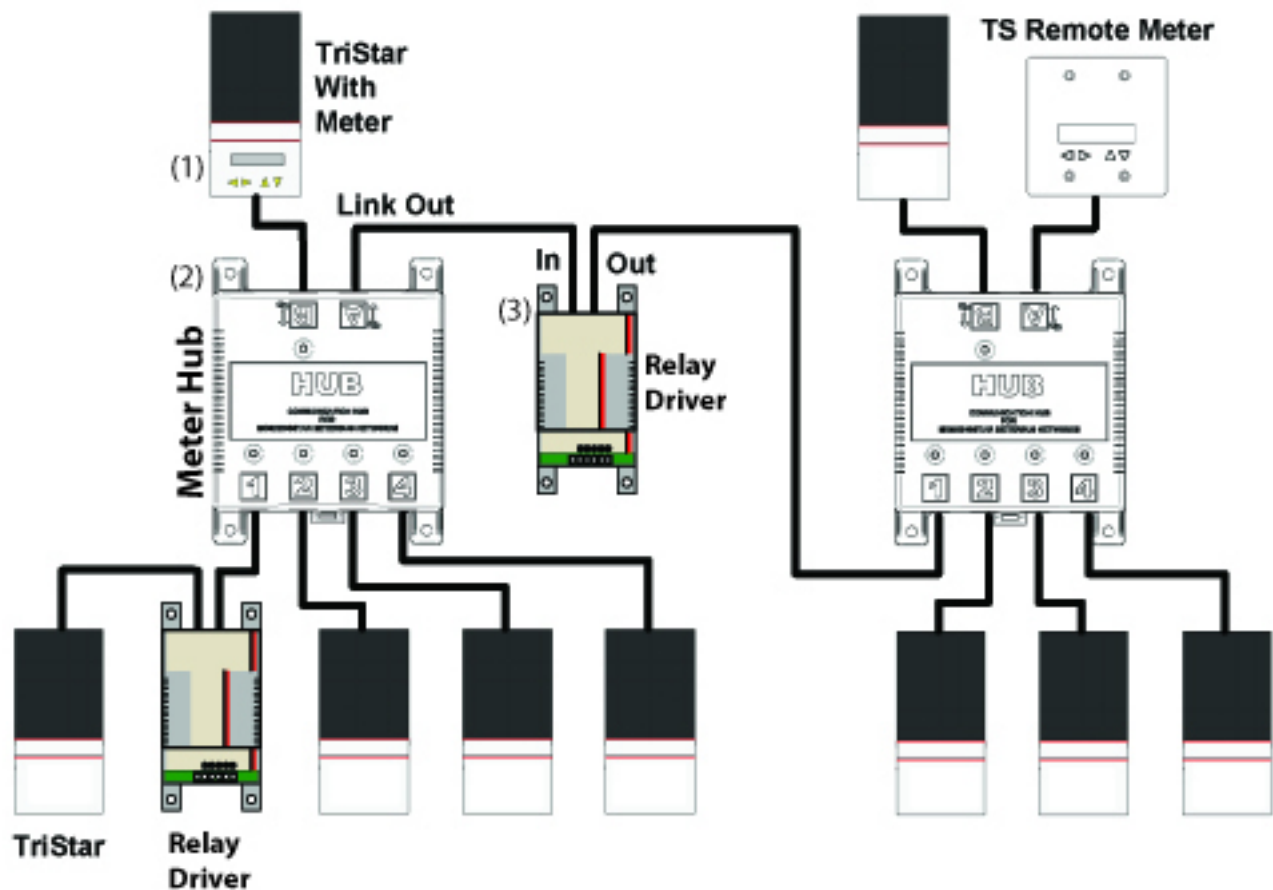

Figure 23. Morningstar MeterBus™ Large, Multiple Hub Network Diagram 2
Device power requirements will sometimes call for a network setup as illustrated in Figure 23. This multiple hub network connects hubs in a different manner than in Example #4. Since the TriStar (with Meter) can only power up to three devices (Meter, Hub, Relay Driver - denoted 1 through 3 in the diagram), the output link of the Relay Driver cannot be connected to the input of the second hub. Another unit that provides power (i.e. TriStar) is used to power the second hub and TS Remote Meter. To network the two hubs, the output link of the Relay Driver (3) is connected to one of the isolated ports on the second hub.
Figure 23 illustrates only one example of the way these 14 units can be networked together.